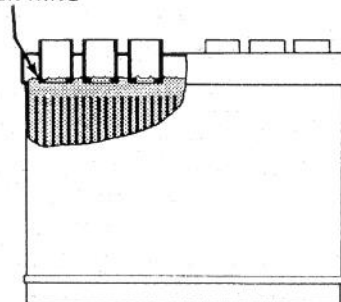

Figure 46
6. Check level of electrolyte in each cell. Add drinkable water to the cell if electrolyte is not up to ring at bottom of filler neck (Fig. 46). **ADD WATER ONLY AFTER BATTERY HAS BEEN CHARGED.** Install vent caps.